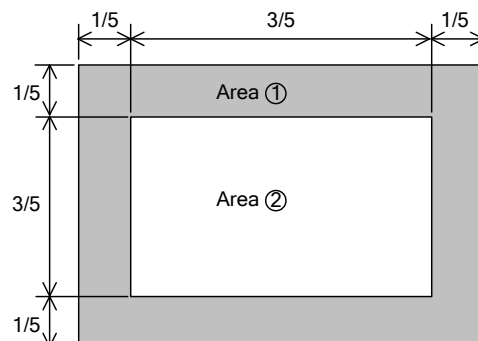

Fig. 12.3
Note 1: The Dot-Defect inspection within A zone (active area) would be divided into area ①, ② as Fig. 12.3 shown.